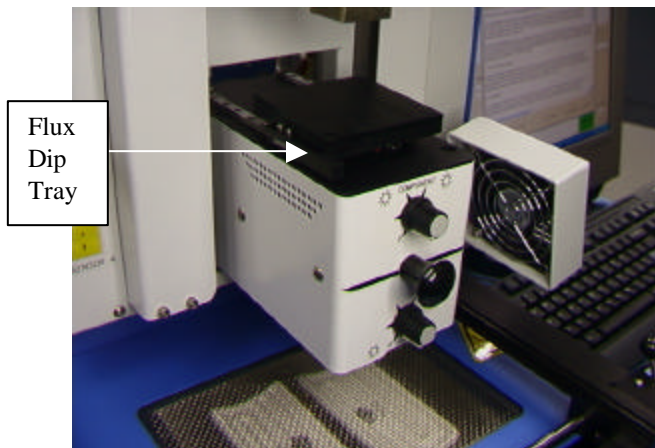

Figure 17b
- xii. If Flux Dip option was selected, place the flux dip assembly on top of the camera housing. (Figure 17b) Mouse click to dip, then remove flux dip assembly.